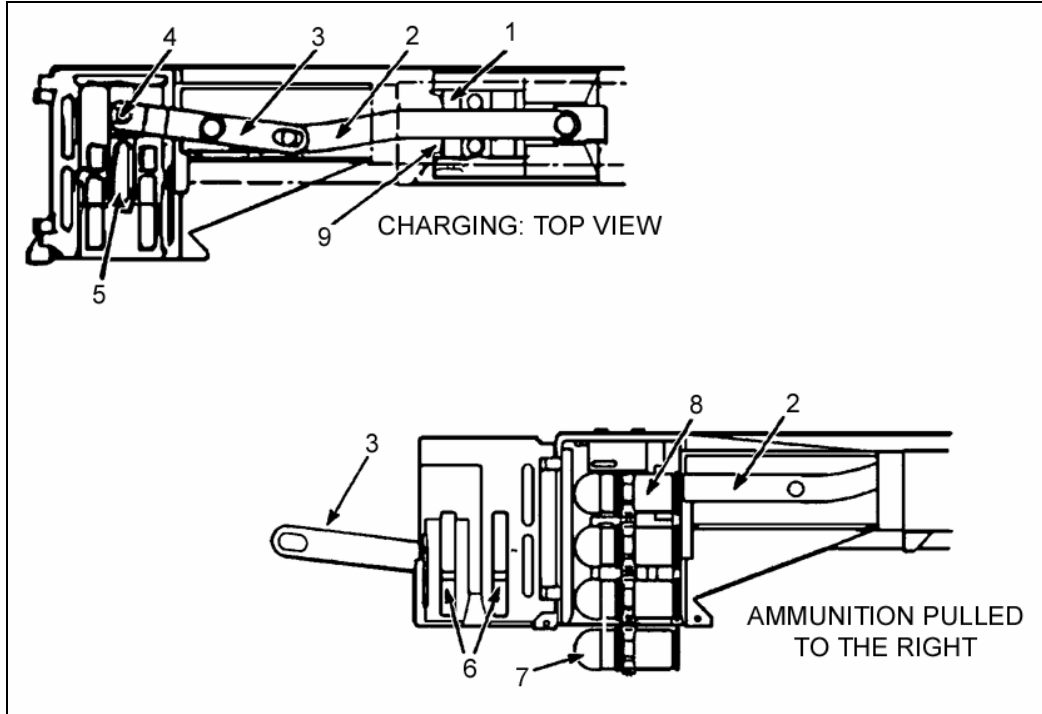

Figure 2-1. Charging cycle.
a. **Charging.** The charger handles are used to pull the bolt (1) to the rear, aligning the round with the bolt extractors. The rearward movement of the bolt causes the primary drive lever (2) to move to the left, which moves the secondary drive lever (3) to the right. The forked end of the secondary drive lever, which rests on the feed slide pin (4), moves the feed slide (5) to the right. The feed pawls (6) on the feed slide move the linked rounds (7) over one place in the ammunition-feed area of the receiver. The leading round (8) lines up with the bolt extractor (9). See Figure 2-1.